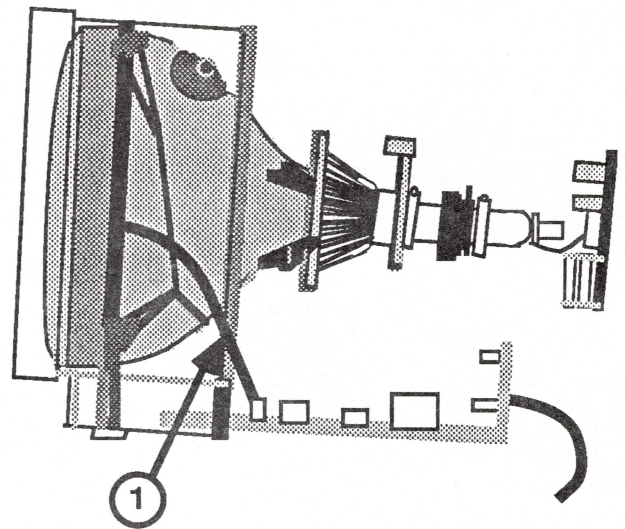

FIGURE 26
13. Reconnect the degaussing coil ground strap to connector W on the main logic PCB (Figure 26, #1), making sure the "W" on the side of the connector is matched to the "W" on the logic board.